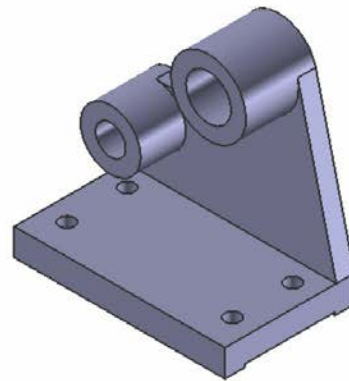

Figure 6-92 Final model after creating all the four holes in the base feature
8. Similarly, create the remaining three holes. Refer to Figure 6-79(b) for dimensions. The final model for this tutorial is shown in Figure 6-92.